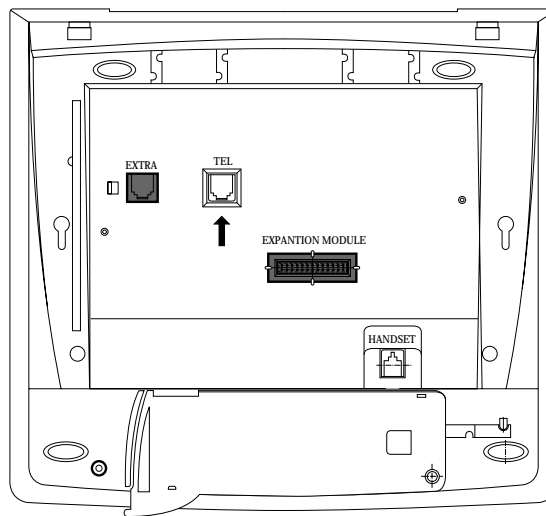

FIGURE 8-1 BOTTOM KTS (Euro KTS)
1. Unplug line code of the phone before performing this procedure. (See Figure 8-1)